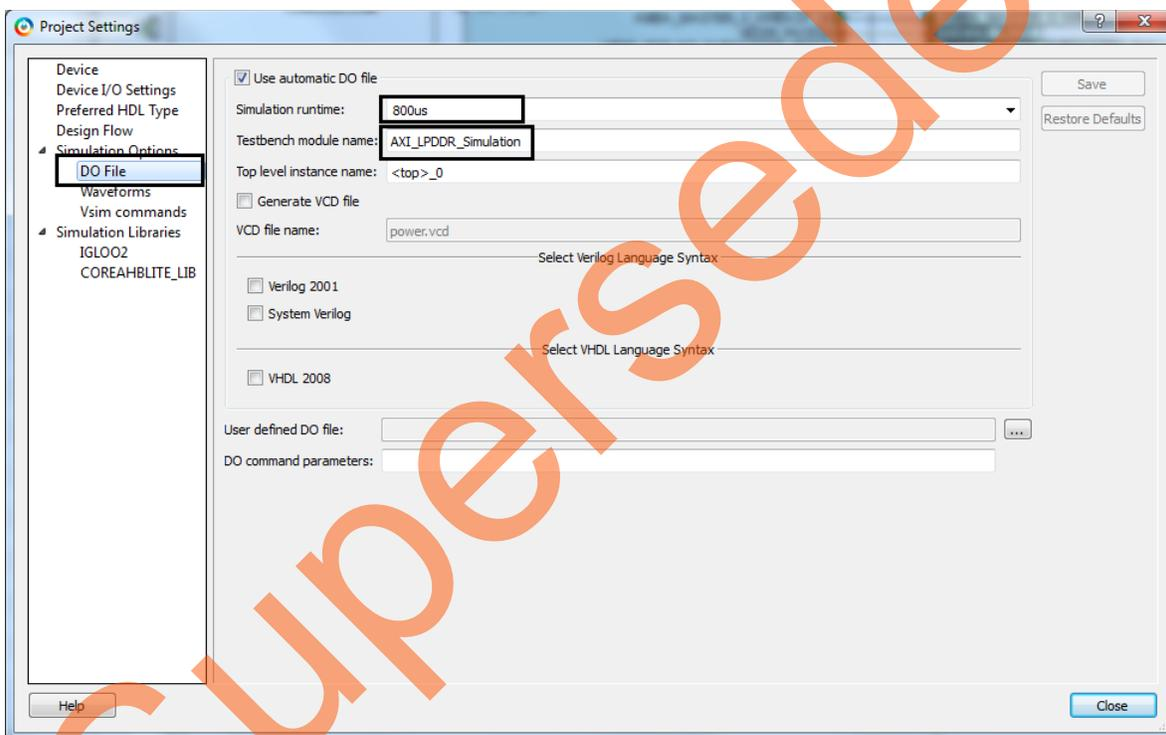

Figure 7 • DO File Settings
4. Ensure that the **DO File** tab has the configuration as shown in Figure 7